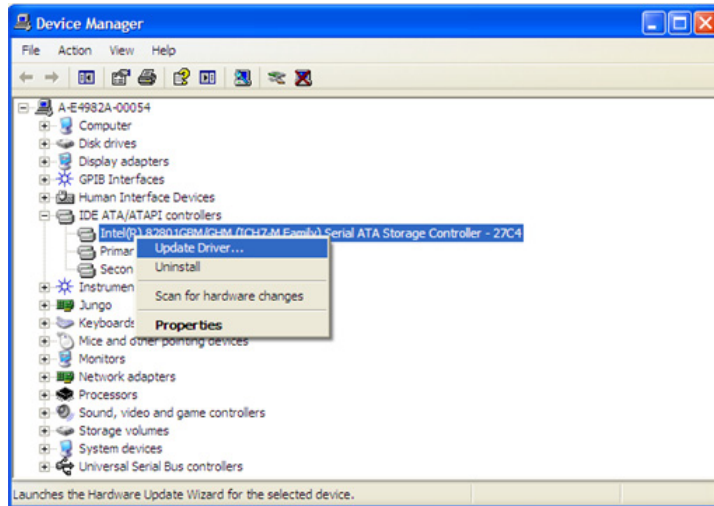

Figure 24 Opening Device Driver Property
Step 4. Click the expand icon (+) on the left to expand the selected device category. Right click on the selected device and click Property to show the status detail as shown in **Figure 24**.